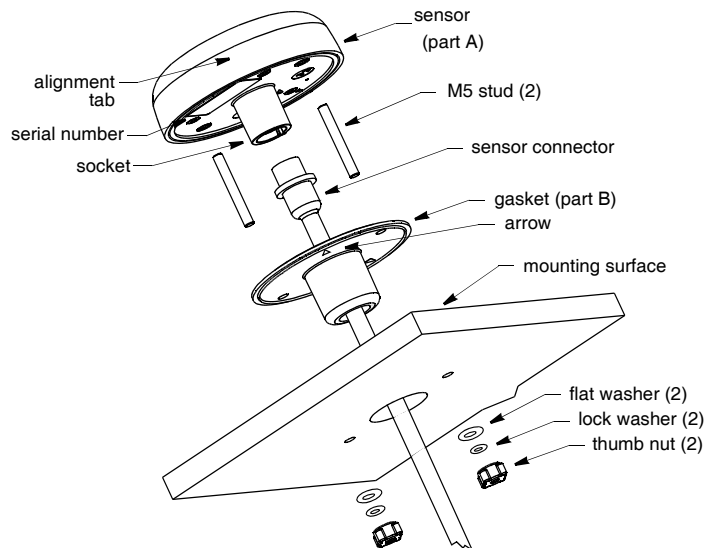

Figure 4. Flush mount
1. Remove the label from over the sensor's socket (part A) (see Figure 4).